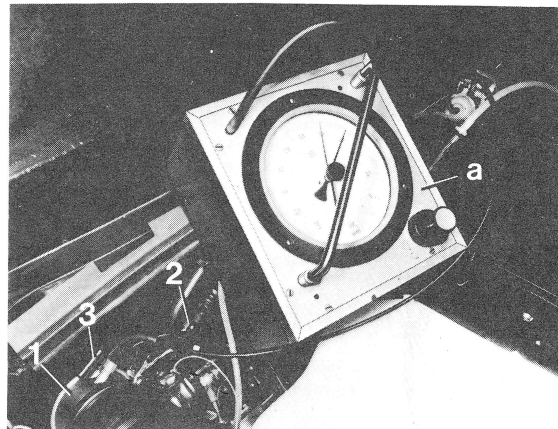

Fig. 5
4. Disconnect vacuum line (3) from throttle actuator (1) and connect vacuum tester (a, Figure 5) directly to throttle actuator.
5. Disconnect 2-Pole plug (2) at throttle actuator (1), connect one terminal on the throttle actuator to battery + and the other to battery -. Perform the following test steps: